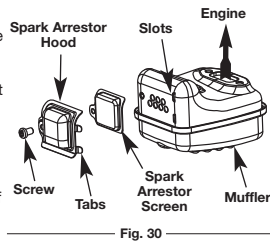

Fig. 30
2. Locate the muffler, but do not remove it. Find the screw on the bottom of the muffler (Fig. 30). Remove the screw using either a torx #20 or flat blade screwdriver.